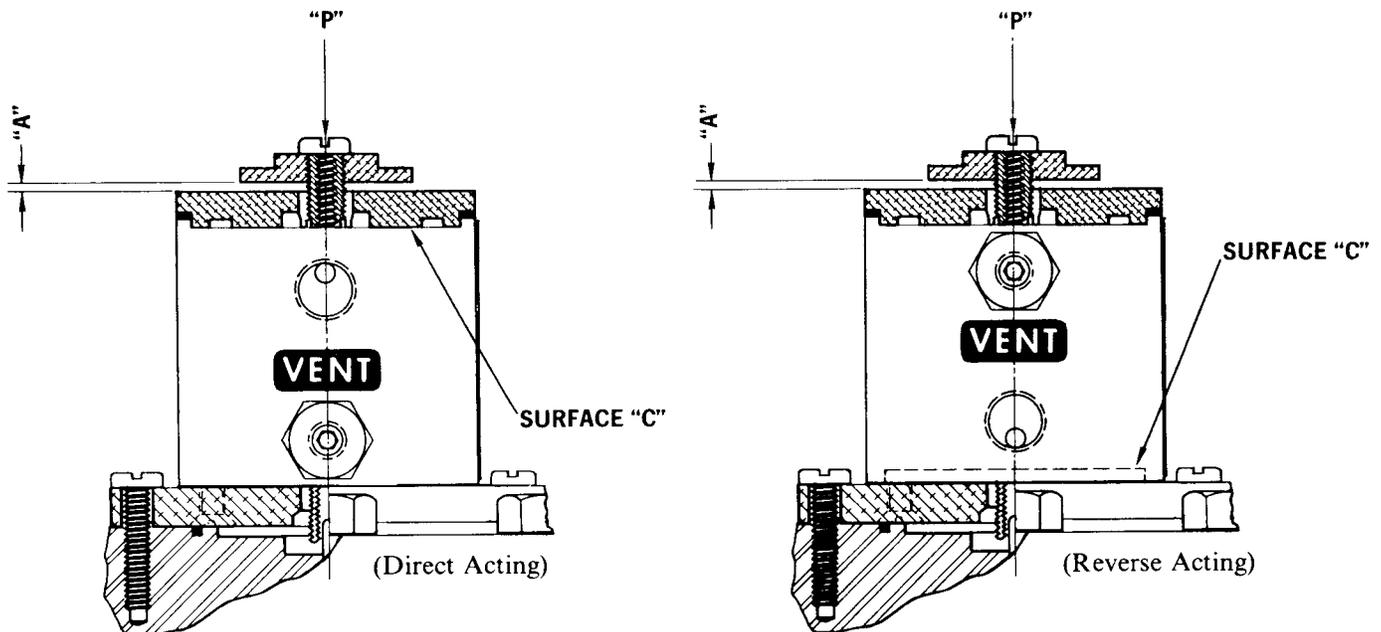

Figure 3
With all O-rings, diaphragms, gaskets and defective parts replaced, reassemble\* as follows: (refer to Fig. 3).
*NOTE: For Direct Acting, hold valve housing as in Figure 3; for Reverse Acting, invert housing.*
Replace the spring seat and its locking screw. DO NOT TIGHTEN YET. Turn the differential adjustment screw clockwise until it becomes difficult to turn; DO NOT TIGHTEN. On manual reset models, depress the reset plunger. Then apply an approximate one-pound force at "P" (see Fig. 3) and turn the spring seat to obtain dimension "A." Tighten the locking screw\* snug and turn the differential adjustment screw counterclockwise 3/4 turn.